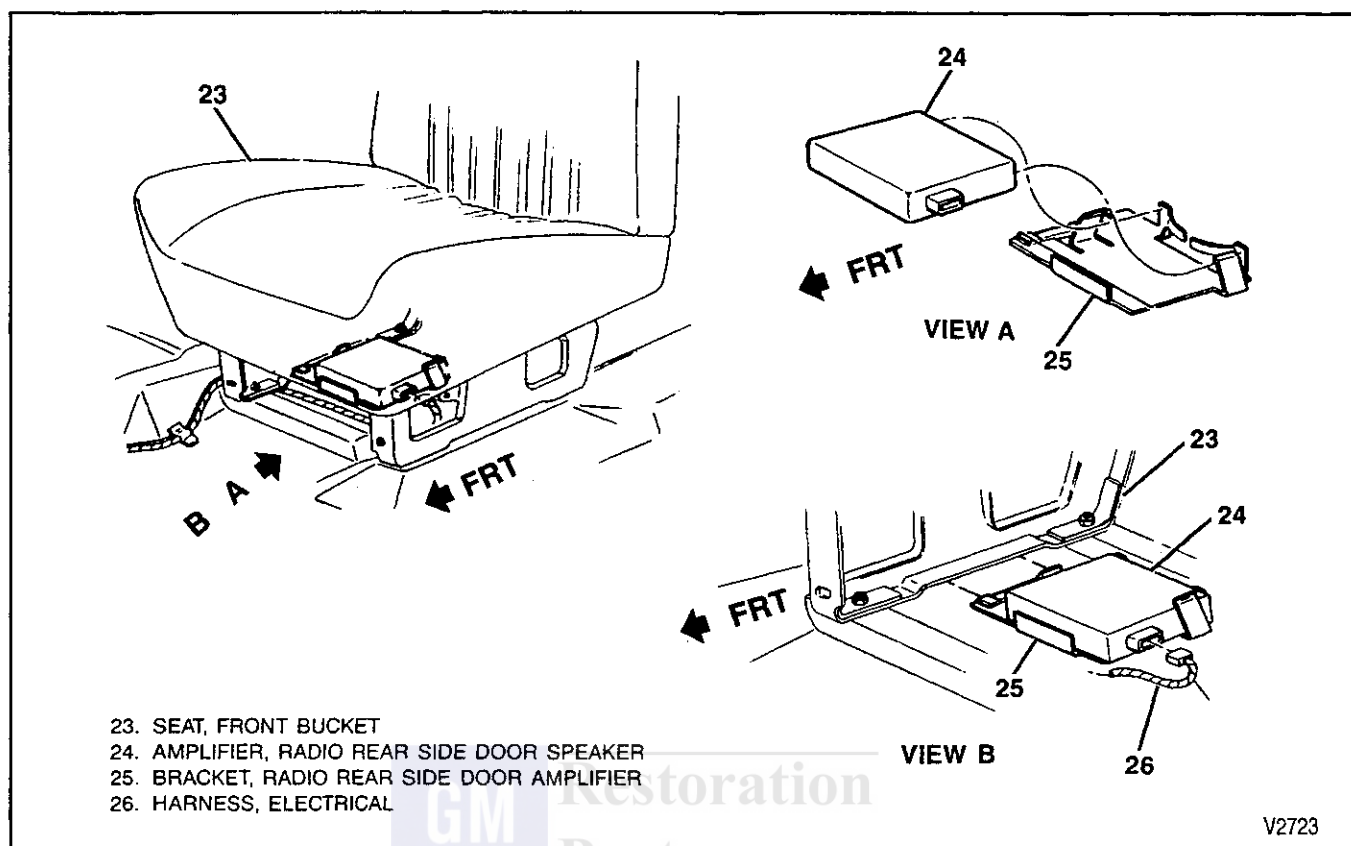

Figure 25—Amplifier Assembly (Front Bucket Seat-Suburban Models)
**Remove or Disconnect (Figures 25 and 26)**
3. Amplifier (24) from bracket (25).
**Install or Connect (Figures 25 and 26)**
1. Amplifier (24) to bracket (25).